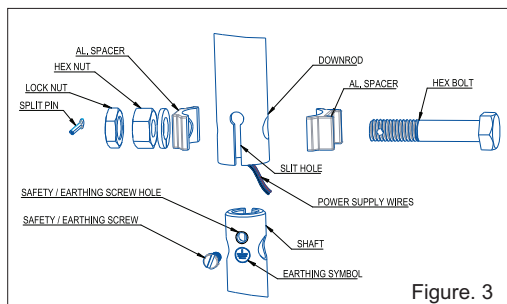

Figure. 3
9. The split pins should be securely replaced in their place as shown in, assembled and exploded views (Figure 2 & Figure 3)